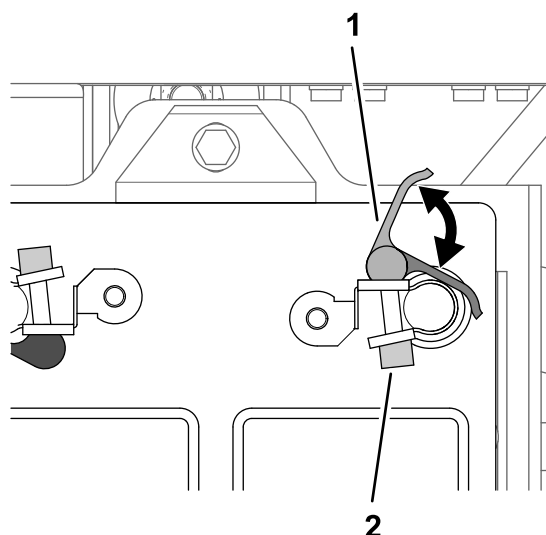

Figure 207
- Open the latch handle of the quick-connect clamp with the black handle (Figure 207).
- Close the latch handle of the quick-connect clamp (Figure 207).